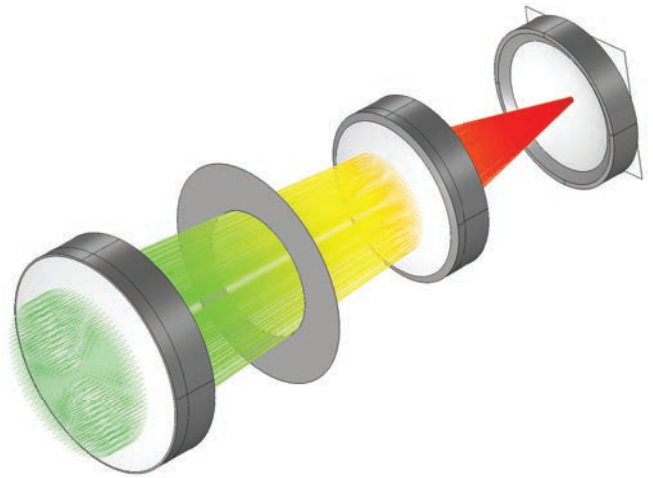

Figure 1. Ray diagram of a Petzval lens.
**LET US FIRST CONSIDER** a Petzval lens system at uniform temperature and with no applied forces. The Petzval lens consists of front and rear lens groups followed by a field-flattening lens. Collimated rays propagate from the left (green) toward an image plane at the right (red) (Figure 1).